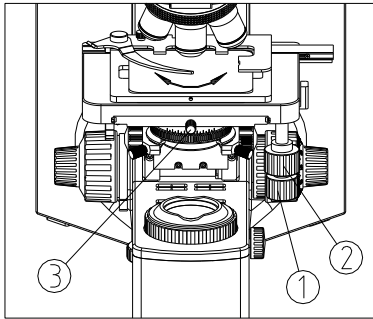

Fig.32
When observing, move the stage by rotating the X-axis① and Y-axis② adjustment knob. If the moving direction of the stage is different from the image's, rotate the stage to adjust it (See Fig. 32).
- (1) Loosen the stage lock screw③ a little.
- (2) Rotate the stage clockwise or counterclockwise for some angle, until the moving direction of the stage is as same as the image's, and then lock the lock screw.